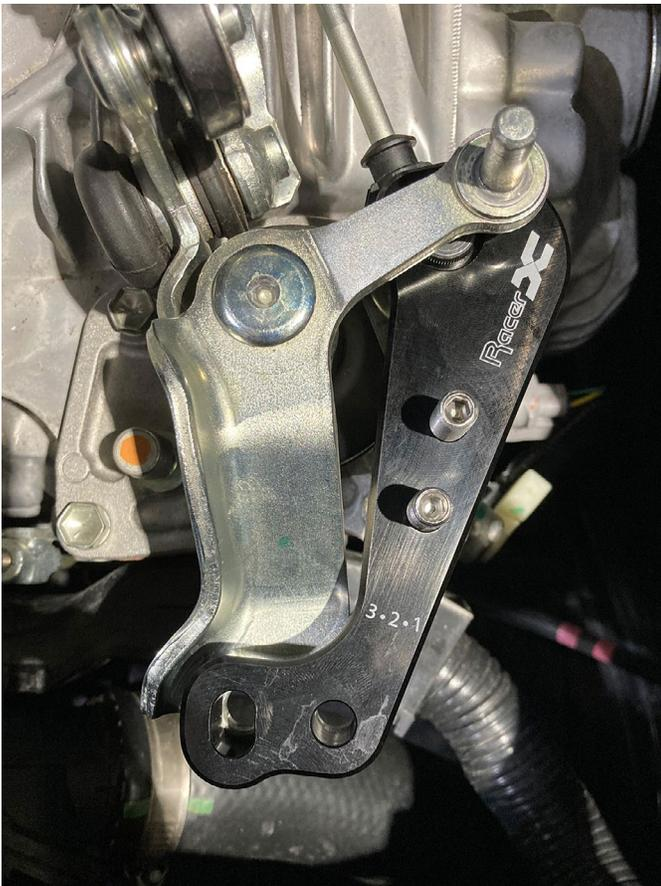
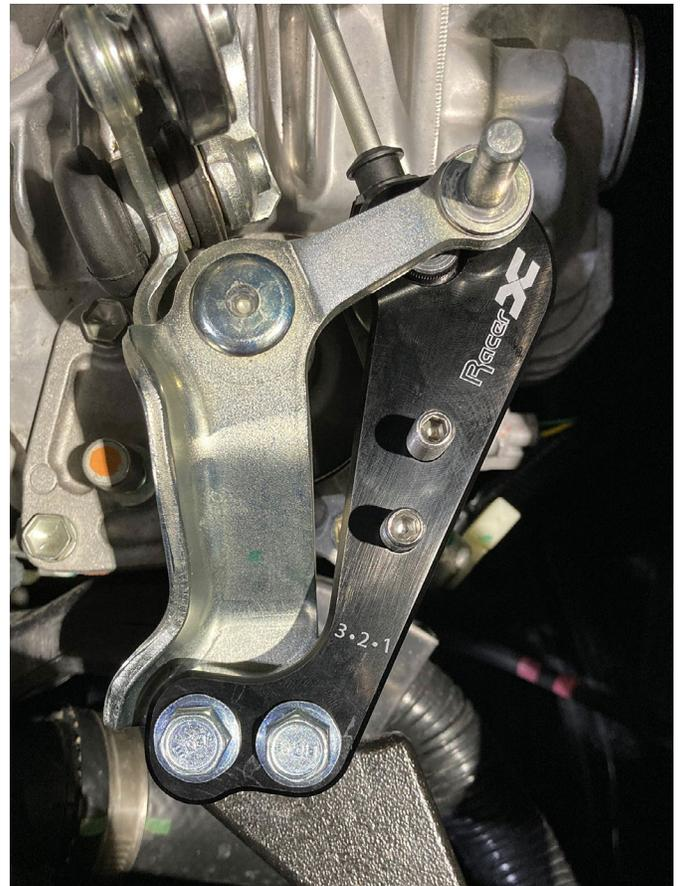

Figure 13
Figure 14
10. Align short throw shifter as pictured, then install M8 flange bolts through shifter body and into counter weight. Tighten bolts by hand and then back off 1/4 turn, so the shifter body can still rotate. (Fig 13 & Fig 14)